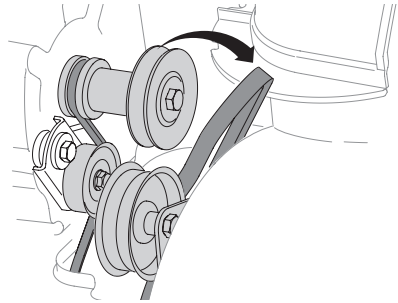

Figure 83
3. Roll auger belt off engine pulley (Figure 83).